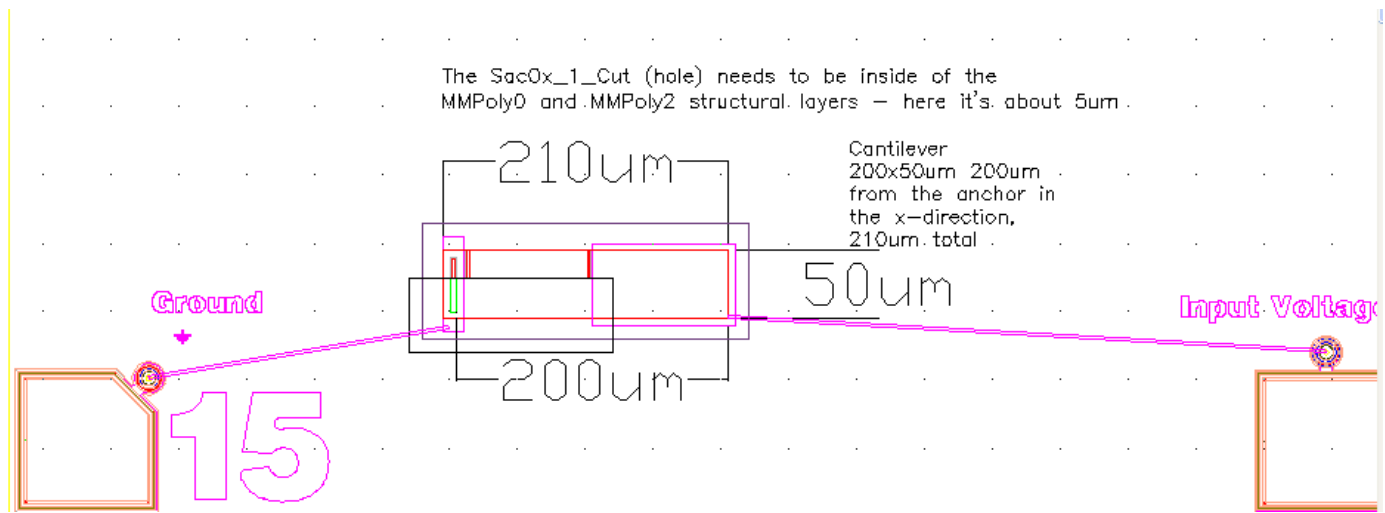

Figure 3 Showing the leads to ground in Vin
- Use MMPOLY0 for the Actuators and leads to the bond pads as shown in Figure 3